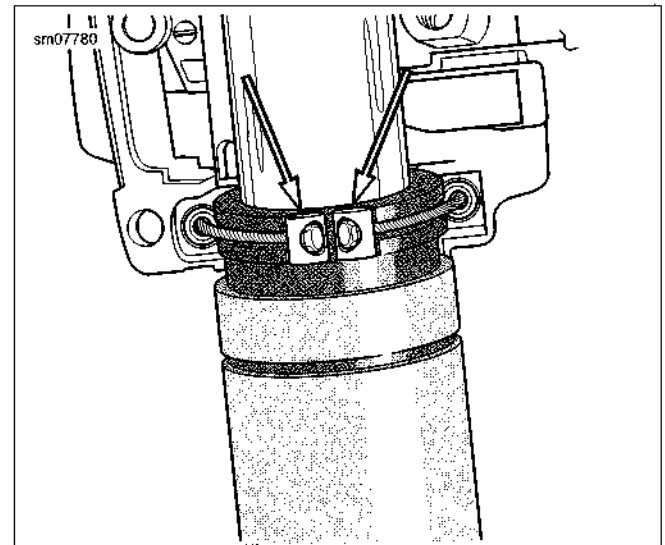

Figure 6-114. Throttle Cable Ferrules
8. See Figure 6-114. Remove brass ferrules from control grip notches. Remove ferrules from cable end fittings.